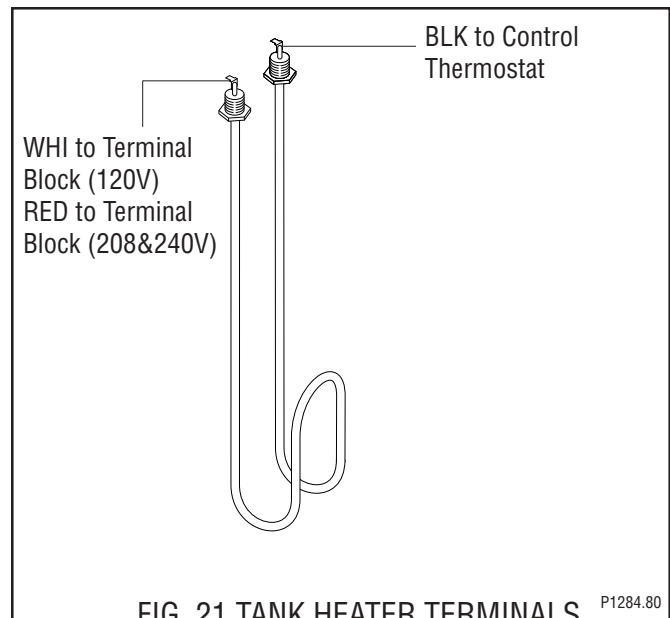

FIG. 21 TANK HEATER TERMINALS
13. Refer to Fig. 21 when reconnecting the tank heater wires.